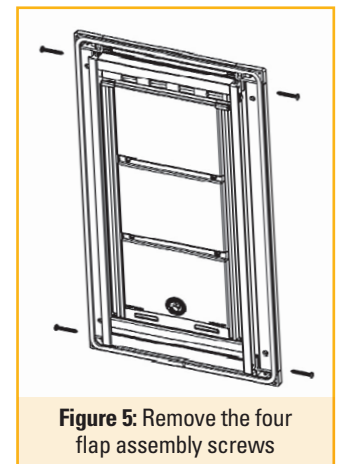

Figure 5: Remove the four flap assembly screws
9. Remove the screws in the four corners of the flap frame assembly as shown in Figure 5.